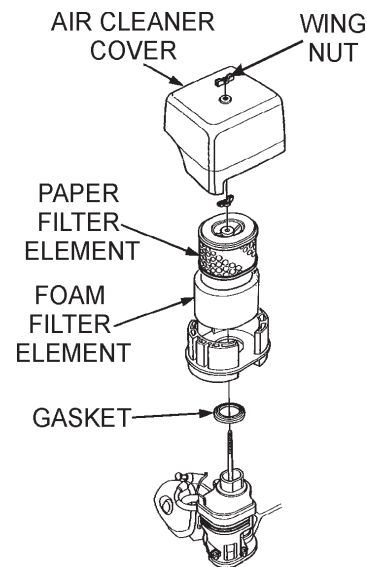

Figure 28. Engine Air Filter and Element
2. To clean or replace air filter loosen the wing nut on the air filter housing (Figure 28) remove the cover and take out air filter cartridge. If only cleaning of the air filter is desired blow through the air filter cartridge from the inside, moving a jet of dry compressed air up and down until all dust is removed.